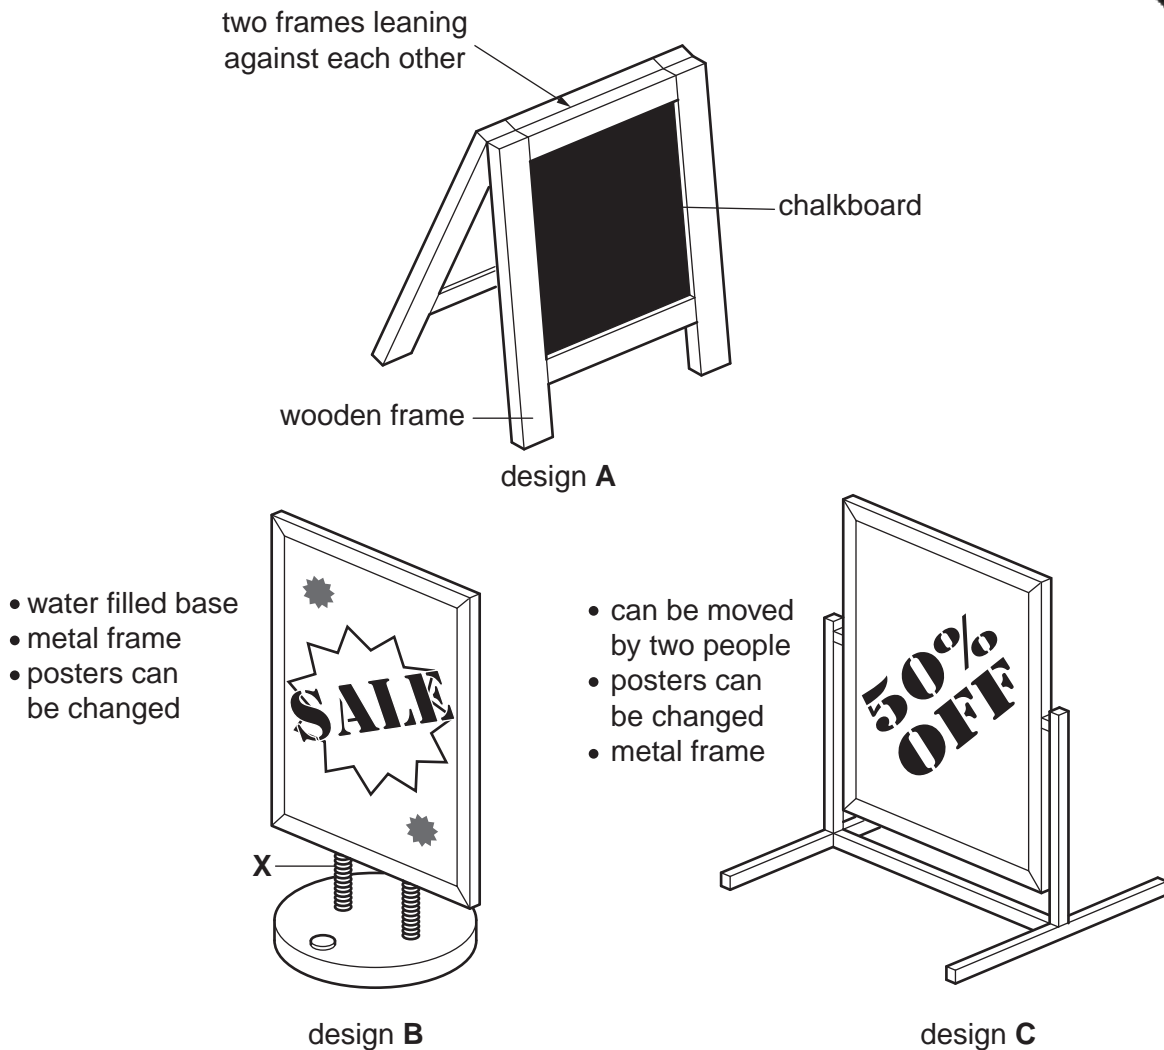

Fig. 6
- 6 Fig. 6 shows a range of designs for free-standing advertising boards. Businesses use advertising boards outside their premises.